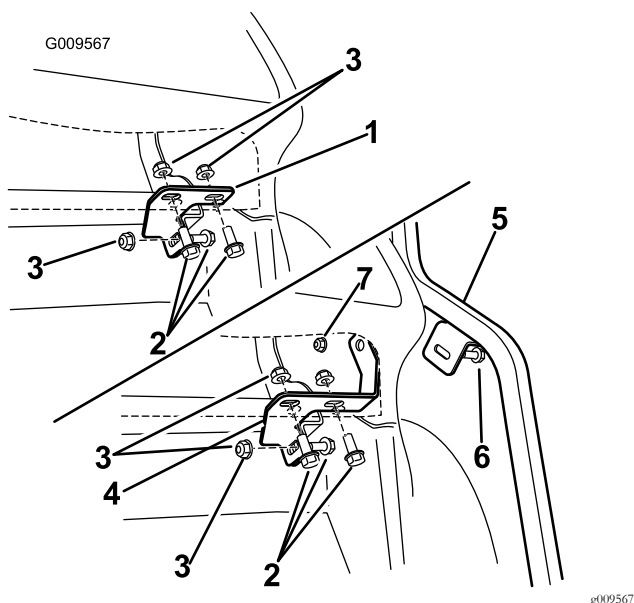

Figure 4
3. Locate the existing bracket mounted to the cross tube and under the right side of the dash, and remove the bracket under the dash (Figure 4).
- A. Install the dash bolt (5/16 x 1 inch) through the right, front support tube, dash, and dash bracket (Figure 4).
- B. Loosely install the flange nut (5/16 inch) to secure the dash bracket and support tube to the machine (Figure 4).
- C. Loosely install the remaining previously-removed hardware to secure the dash bracket to the cross tube and frame (Figure 4).